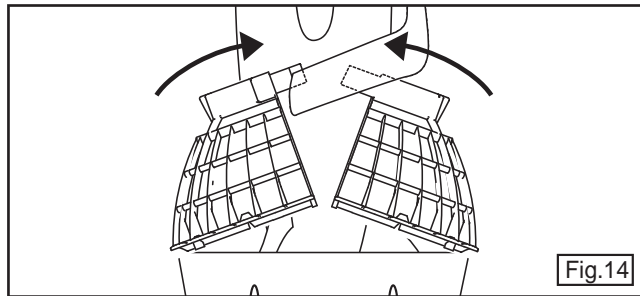

Fig.14
4. Unclip grille as shown in figure 14 (page 21) .